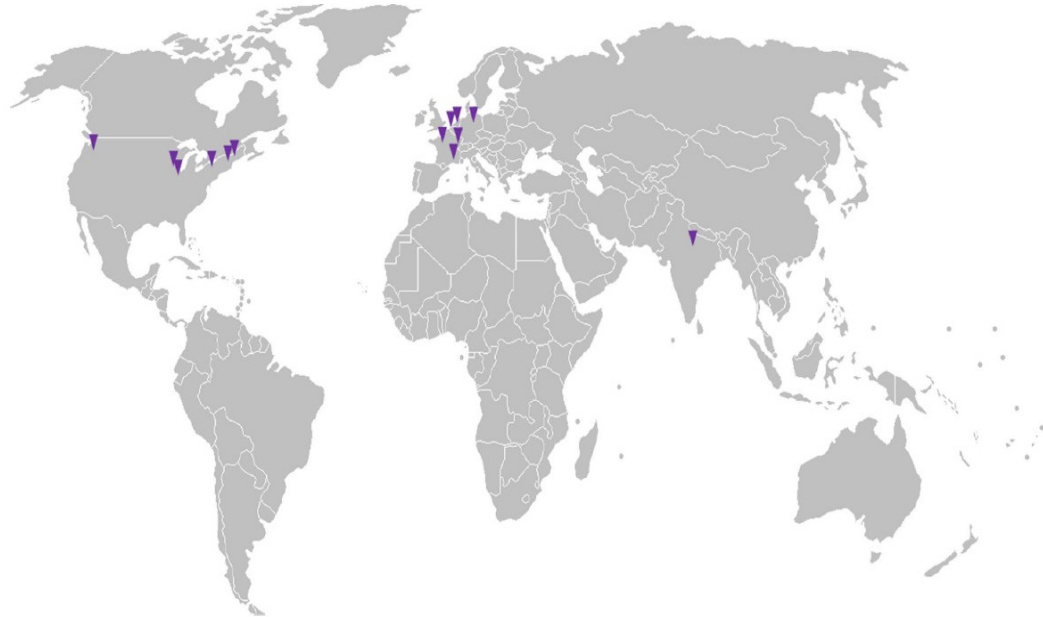

Fig. 1 Worldwide distribution of reported outbreaks of duodenoscopy-associated infections from 2000 to present
Fig. 1 Timeline of ERCP procedure and infection and colonization of patients. (\*This patient was known to be colonized with *bla*SHV-12 *K. pneumoniae* since October 2019)
**Figure 1.** Timeline of the outbreak. Green and blue bars, number of patients who have undergone an ERCP procedure with duodenoscope A or B, respectively. Follow-up procedures with the same duodenoscope were excluded; pink bar, number of patients who have undergone a procedure with duodenoscope A or B; solid red line, all MRKP cases retrospectively detected by clinical or screening cultures; dashed green line, all cases with MRKP treated with duodenoscope A; dashed blue line, all cases with MRKP treated with duodenoscope B; dashed pink line, all cases with MRKP treated with a TJF-Q180V duodenoscope, either A or B. The outbreak period was set from January to August 2015. MR, Multidrug-resistant; MRKP, multidrug-resistant *K pneumoniae*.